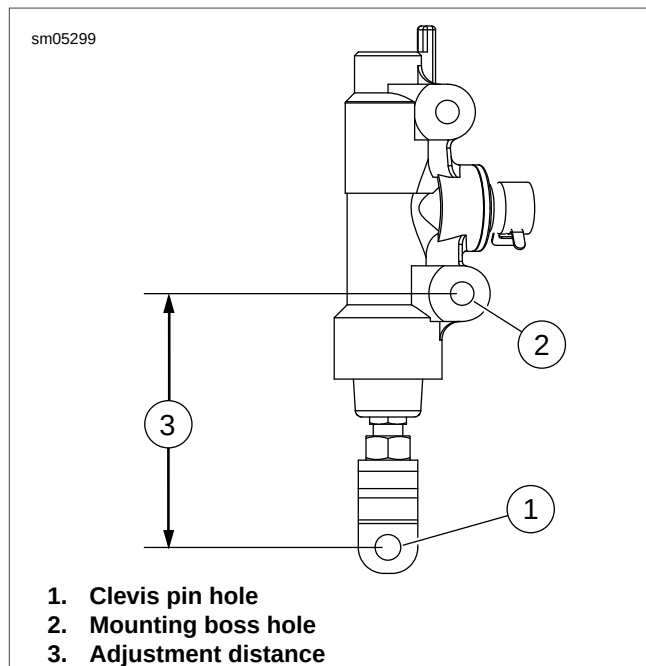

Figure 2-115. Adjusting Push Rod Length
14. See Figure 2-115. Measure distance (3) from centerline of clevis pin hole (1) in yoke to centerline of master cylinder mounting boss hole (2) closest to yoke. This distance must be 2.64-2.76 in. (67.1-70.1 mm). Adjust yoke until this distance is obtained.